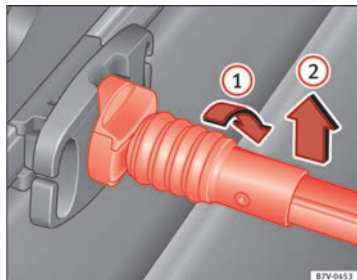

Fig. 98 Release the baggage net.
- Rotate the attachment rod 90° to the right ⇒ fig. 98 ① until you can see the red mark on the rod. Pull the attachment rod upwards ②.